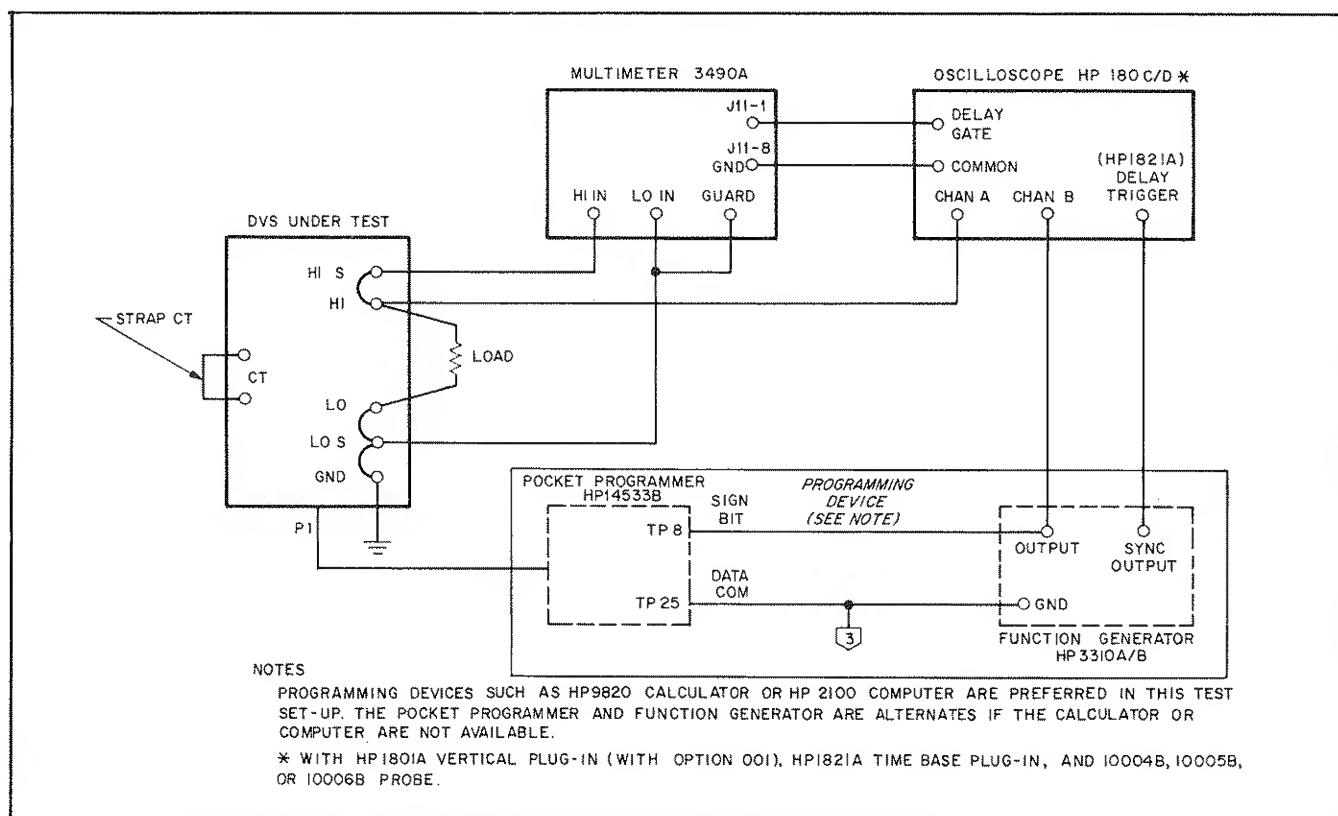
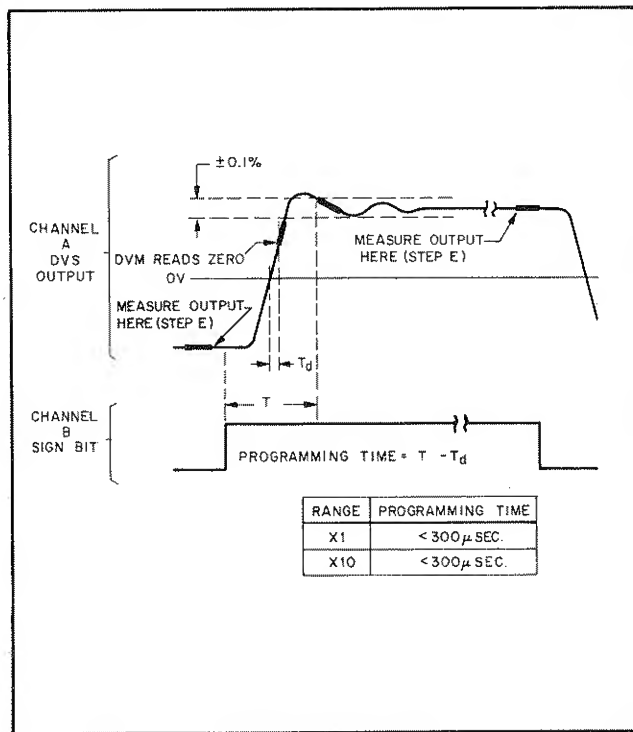

Figure 5-2. Programming Time Test Setup
Figure 5-3. Programming Time Waveforms
5-24 Equal positive and negative output voltages cannot be obtained by simple switching the position of the polarity switch; negative numbers must be programmed in the 2's complement form. For this reason, a computer or calculator would be the easiest means to obtain the equal positive and negative numbers necessary to perform this test. To perform this test for "worst case" result, use the test setup in Figure 5-2 employing the computer or calculator recommended. Program the computer or calculator so that it will program the DVS between +16.3835 and -16.384 volts and between +100 and -100 volts. The observed waveform should be within the tolerance of Figure 5-3. If the computer or calculator is not available, use the Pocket Programmer and Function Generator (see Figure 5-2) as the programming device and proceed as follows:
- e. Measure the voltage just prior to the waveform transitions (see Figure 5-3). Voltage reading should be within 0.1% of ΔV_{OUT} .